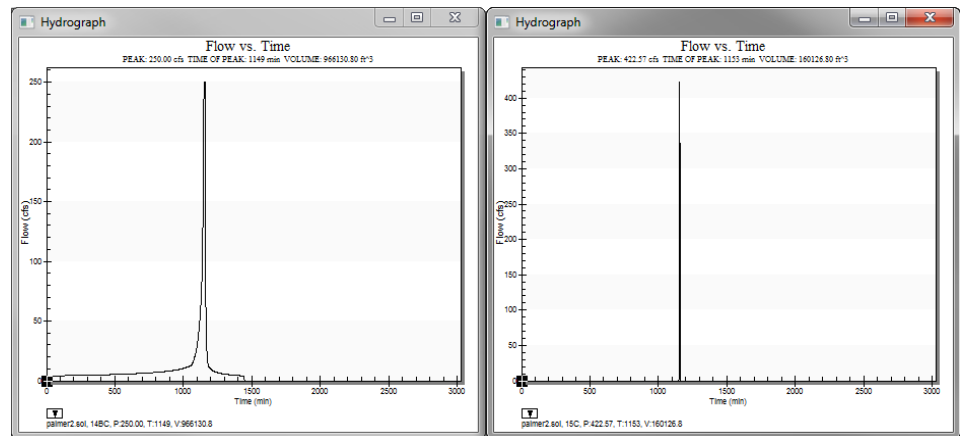

Figure 9 Hydrographs for 14BC (left) and 15C (right)
12. Compare the two hydrographs, and notice that the one for “15C” appears to be a continuation of the one for “14BC” (Figure 9).